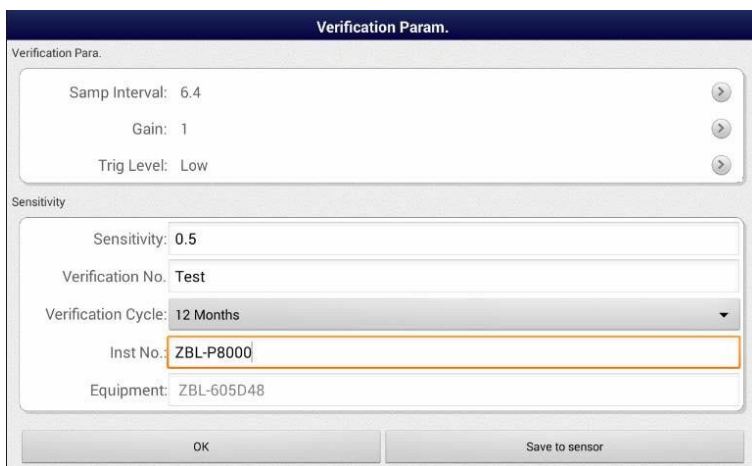

Figure4.2 Parameter Setting
Click button **Settings** in the main interface of the soft, the interface shown in Figure 4.2 will come out. Then you should set the **gain, sensitivity, sampling interval**, etc.
2. Click button **Settings** in the main interface of the soft, the interface shown in Figure 4.2 will come out. After you finished setting the **gain**, **sensitivity**, **sampling interval** (shown in Table 4.1), etc. Click **OK** to return to the main interface.